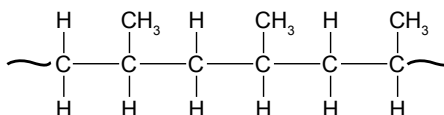

Figure 4.6
1. Figure 4.6 shows the structure of a polymer.